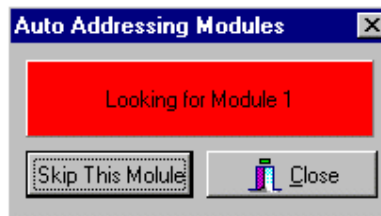

Fig. 51
6) Click **Controller Utility** with your left mouse button. A window will appear (fig. 51).